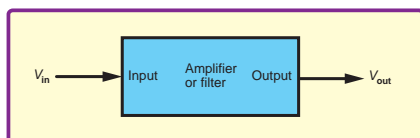
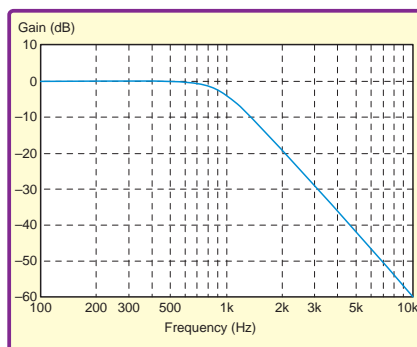
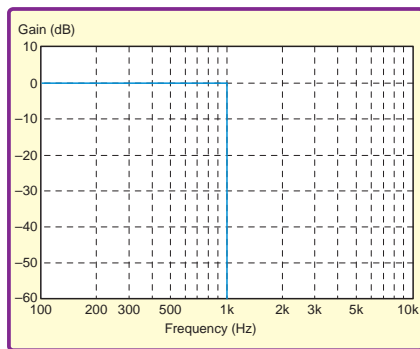

Fig. 1. Simple electronic system; the gain is v_{out}/v_{in} .
Fig.2. Example frequency response graph of a 1.0kHz low-pass filter.
Fig.3. Frequency response graph of a 1.0kHz 'Brick Wall' low-pass filter. This perfect filter cannot be built as a real circuit.
Starting with circuit fundamentals, a filter or amplifier is an electronic system (see Fig.1) which reproduces the signal on its input (v_{in}) on its output (v_{out}). Typically, the output has different amplitude and power delivery capabilities. The ratio of output to input signal level v_{out}/v_{in} is the voltage gain (G) and very often (as in **741's** question) we are interested in how the gain of a circuit varies with frequency, known as the 'frequency response' of the circuit. Often, a frequency response is shown by plotting a graph of gain against frequency (see Fig.2, which we will discuss in more detail shortly). Such a plot can be obtained by measurement in a lab, by simulation or by plotting a mathematical function derived from analysis of the circuit. The frequency response graph can be used to help decide if a circuit is appropriate for
On the decibel scale, a gain of 1 is 0 dB, gains greater than 1 (amplification) are positive and gains less than one (attenuation) are negative. The graph in Fig.2 shows a filter with unity-gain at low frequencies and increasing attenuation at high frequencies. The scale points of -10, -20, -20, -40... correspond to attenuations of 1/3.2, 1/10, 1/32 and 1/100 respectively. To convert from a voltage gain (G) expressed in dB to a simple numerical gain find $10^{(G/20)}$. For a power gain use $10^{(G/10)}$.
An ideal low-pass filter would pass all signals below the cut-off and completely reject all signals above the cut-off. The frequency response graph would look like Fig.3. Unfortunately, this perfectly sharp cut-off, which is referred to as a 'brick wall' filter, cannot be physically implemented.
Instead, real filters have a more gradual decrease in gain in the transition from pass band to stop band; for example, the frequency response in Fig.2. The question then arises as to where the cut-off is taken to be along the smooth curve. The usual answer is that the cut-off is defined to be the frequency at which the output power from the filter falls to half that in the pass band, this is $10 \times \log_{10}(0.5) = -3$ dB. For example, for the response shown in Fig.2, the cut-off frequency is 1kHz (the same as the brick wall filter in Fig.3).